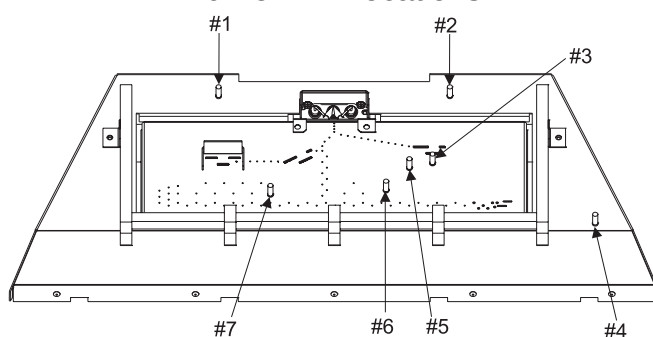

Figure 18
1. Place Rear Log (A) onto burner pins #1 and #2. See Figure 18 for burner pin identification.
3. Place Right Log (C) onto the two right pins on (A) log and angled down to sit outside the grate and onto burner pin #4. See Figure 18 for burner pin identification.
4. Place Log Chunk (D) onto burner pins #3 and #5. See Figure 18 for burner pin identification.
5. Place Right Center Log (F) onto the two pins on (C) log and burner pin #6. See Figure 18 for burner pin identification.
6. Place Left Center Log (E) onto the two pins on (B) log and burner pin #7. See Figure 18 for burner pin identification.